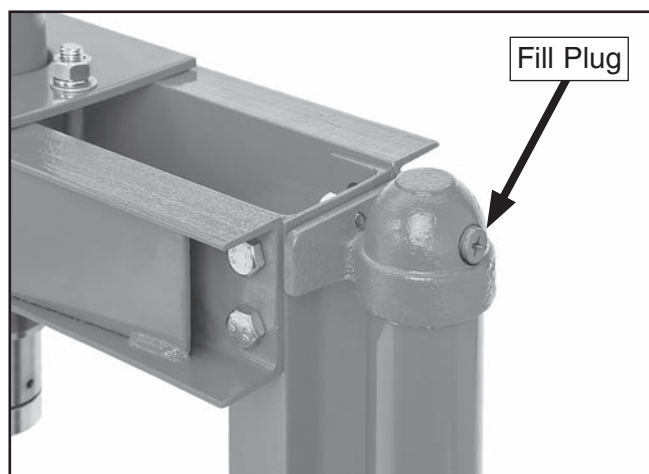

Figure 18. Fill plug location.
23. Completely unthread the reservoir fill plug shown in **Figure 18** and leave it open. This valve is closed so the hydraulic oil is not lost during shipping.